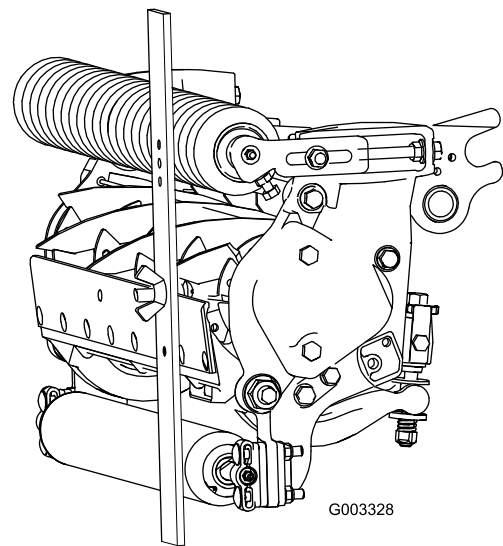

Figure 23
3. Hook the screw head on cutting edge of bedknife and rest rear end of bar on rear roller (Figure 23).
4. Rotate the adjusting screw until the front roller contacts the gauge bar (Figure 23). Adjust both ends of roller until entire roller is parallel to the bedknife.